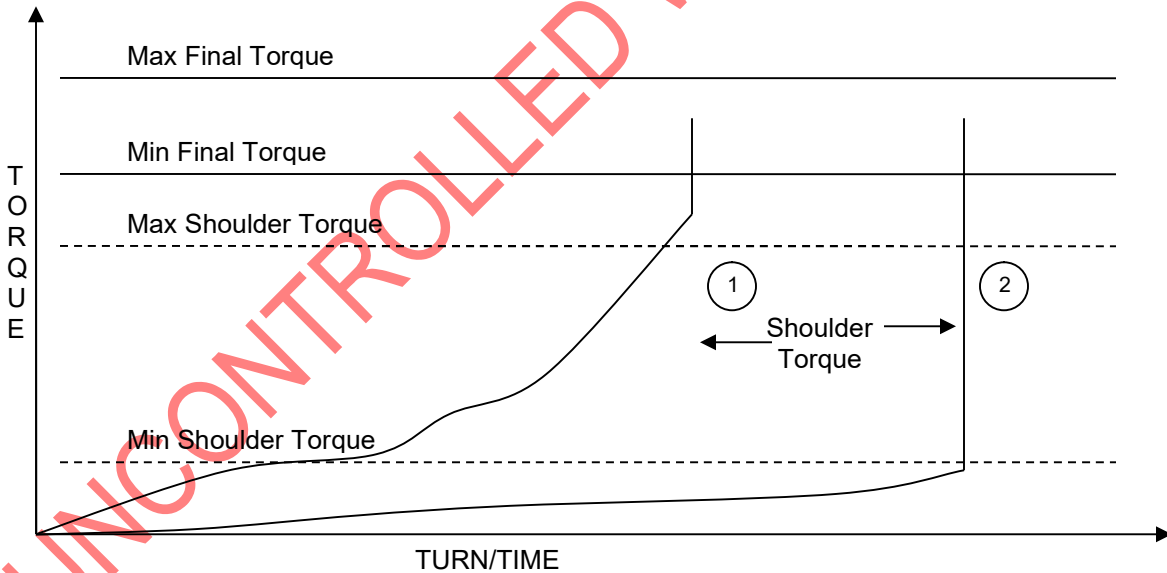

Figure 4: 1. High shoulder (Breakout and evaluate)
- 8.1.2.3.** Shoulder torque value falling outside the shoulder torque maximum and minimum values (figure 4). A connection with this signature shall be broken out and inspected as outlined in section 7.1.3.